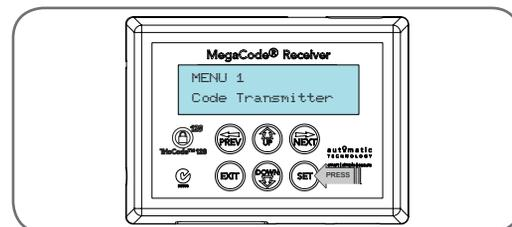

Fig 4.2
- Press NEXT to navigate to Menu 1 (Fig. 4.2).